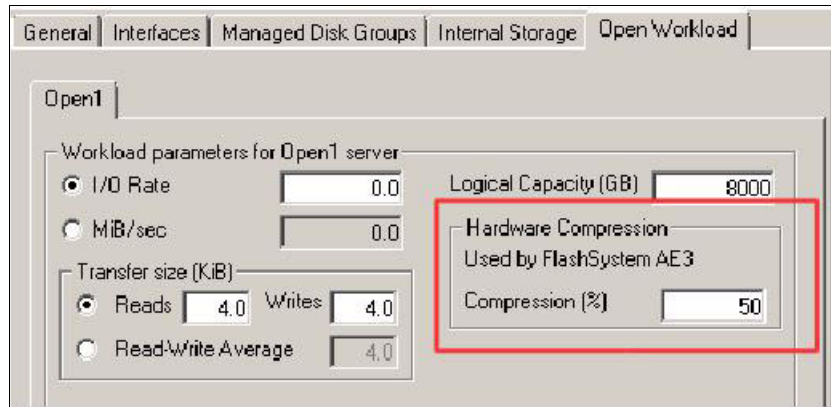

Figure 15 Adjusting compression settings for AE3 enclosure
- ▶ Set the compression ratio for IBM FlashSystem 900-AE3 systems in the Open Workload tab, as shown in Figure 15.